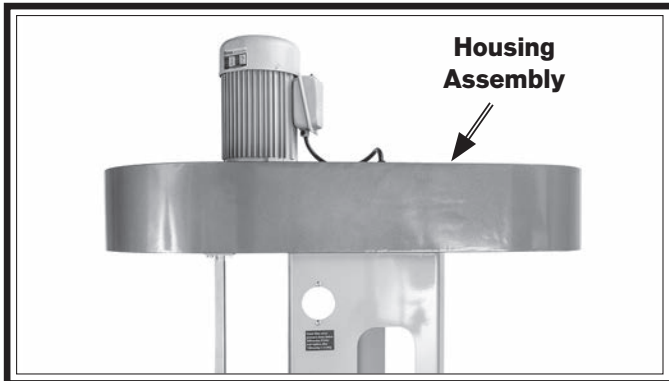

Figure 10. Housing assembly installed to side panels and lock handle guides.
- With help of two assistants, lift housing assembly onto side panels and lock handle guides (see **Figure 10**).